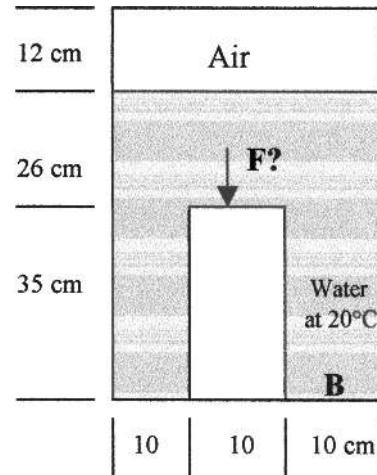

Fig. P2.70
- 2.70** The cylindrical tank in Fig. P2.70 has a 35-cm-high cylindrical insert in the bottom. The pressure at point B is 156 kPa. Find (a) the pressure in the air space; and (b) the force on the top of the insert. Neglect air pressure outside the tank.